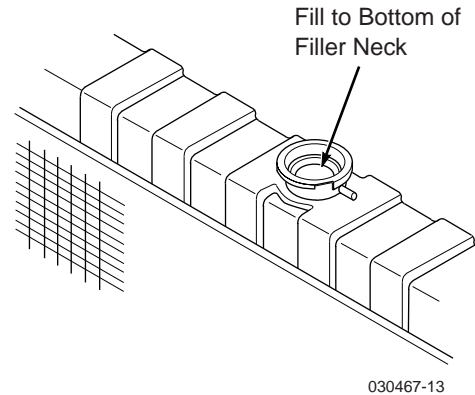

Figure 7-10. Coolant Level
2. Visually check the coolant level. The coolant level should be up to the bottom of the filler neck as shown in Figure 7-10. Add a mixture of coolant and soft water as needed.